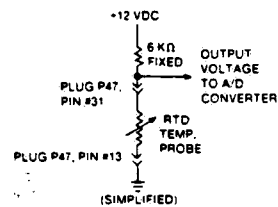

Figure 3-3. TEMPERATURE PROBE SCHEMATIC.
**Temperature and pressure input circuits:** Temperature is sensed by a **resistive temperature probe**. The probe degree has a resistance of 100 ohms at 0 C, and increases about 0.39 ohms for every degree C that the temperature increases. By connecting the probe as part of a voltage divider circuit, an output voltage exactly related to temperature is obtained (see Figures 3-3 and 3-4).